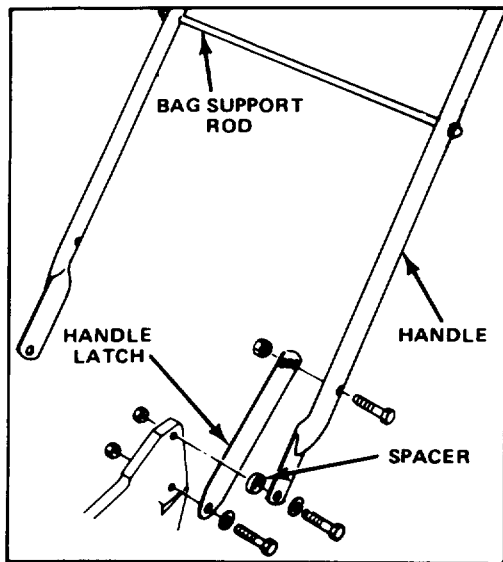

Figure 1
1. Mount handle to outside of mower housing, using top hole, with (2) 5/16-18 x 1-1/2" lg. capscrews, washers, and nylon insert locknuts as shown in Figure 1.
2. Mount handle latches to outside of mower housing, using bottom hole, with (2) 5/16-18 x 1-1/4" lg. capscrews, washers, and locknuts as shown in Figure 1.
3. Secure handle latches to handle with (2) 5/16-18 x 1-1/2" lg. capscrews and nylon insert locknuts (Fig. 1). Position locknuts on outside of handle.
4. Slide bag support rod through top mounting holes in handle and secure each end with (2) cap locknuts (Fig. 1).